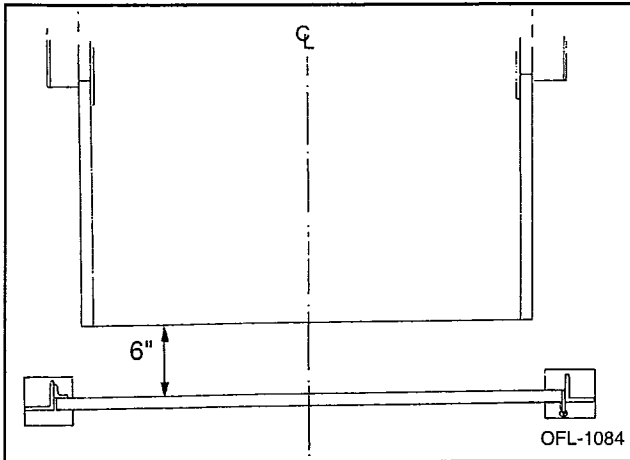

Figure 4
6. The ideal position of the gate is 6" from inside of gate panels to carriage. However, the gate can be located anywhere within a range of 4" minimum from inside of gate panel to carriage and a maximum of 6" from inside of gate panels to carriage. See Figure 4.